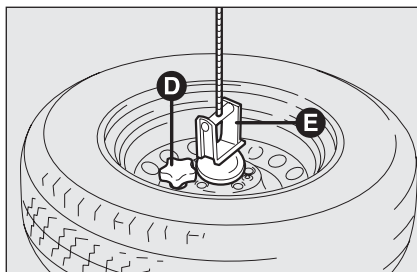

fig. 7
- ☐ undo the retaining knob **D** - **fig. 7** and release the wheel releasing the support **E**.
- ☐ take the wheel replaced, refit it on the support **E**-fig. 7 and tighten the knob **D**-fig. 7;